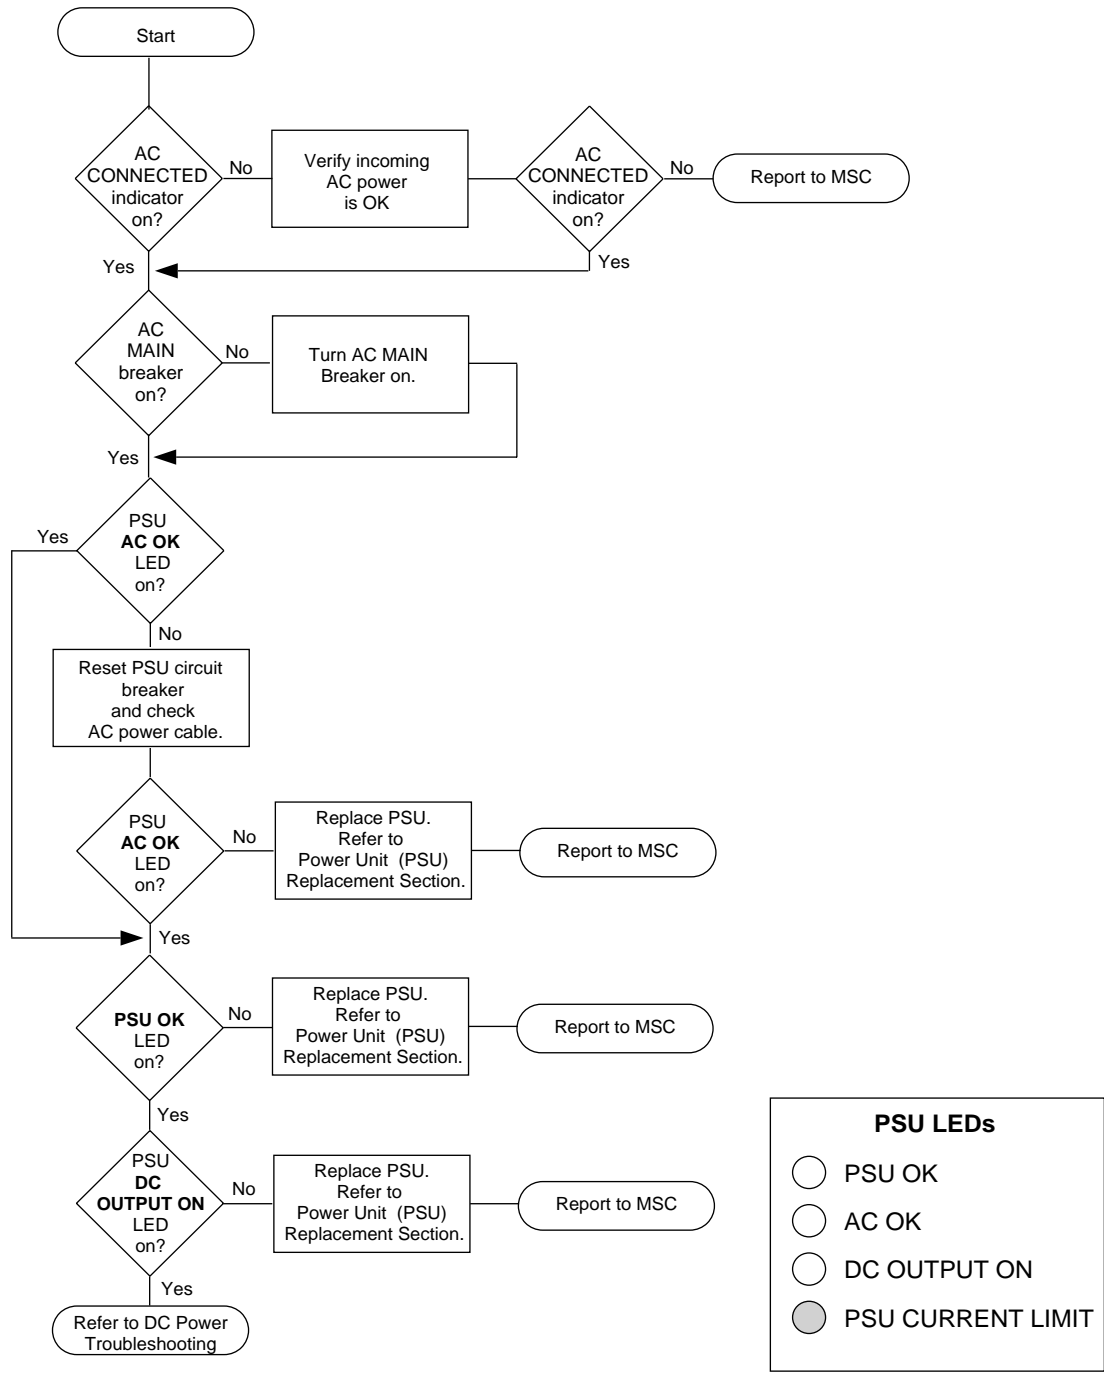
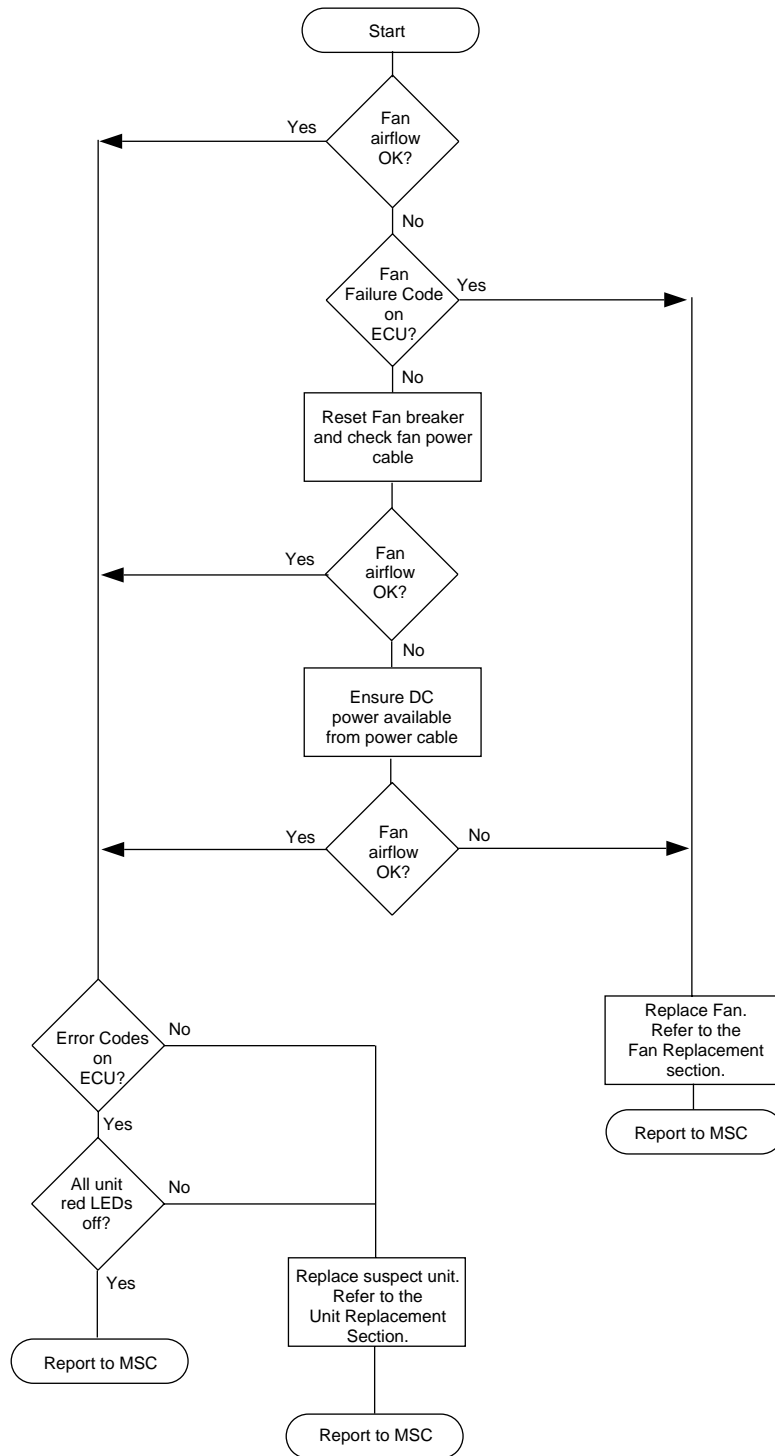

Figure 5-3. Troubleshooting Flowchart for AC Power Connection
Figure 5-4. Troubleshooting Flowchart for DC Power Connection
6. Follow the flowchart shown in Figure 5-3 on page 5-9 or Figure 5-4 on page 5-10 to identify a unit suspected to be faulty.